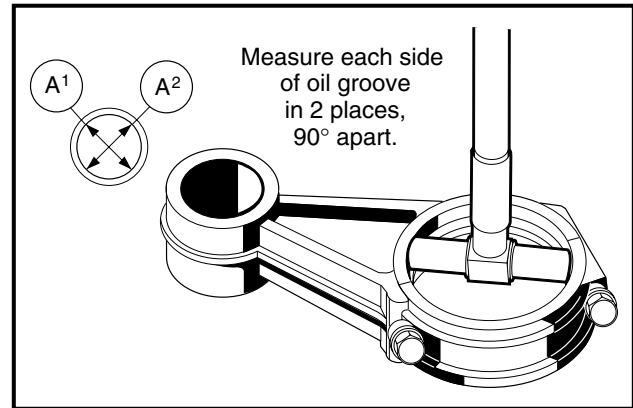

Figure 2-52 Measure I.D. of Large Bore
5. Use a telescoping gauge or an inside micrometer to measure the inside diameter of the large bore at several points along its length (**Figure 2-52, Page 2-25**).